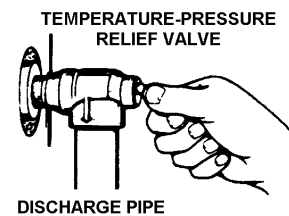

FIGURE 30.
When checking the temperature-pressure relief valve operation, make sure that (1) no one is in front of or around the outlet of the temperature-pressure relief valve discharge line, and (2) that the water discharge will not cause any property damage, as the water may be extremely hot. See Figure 30.